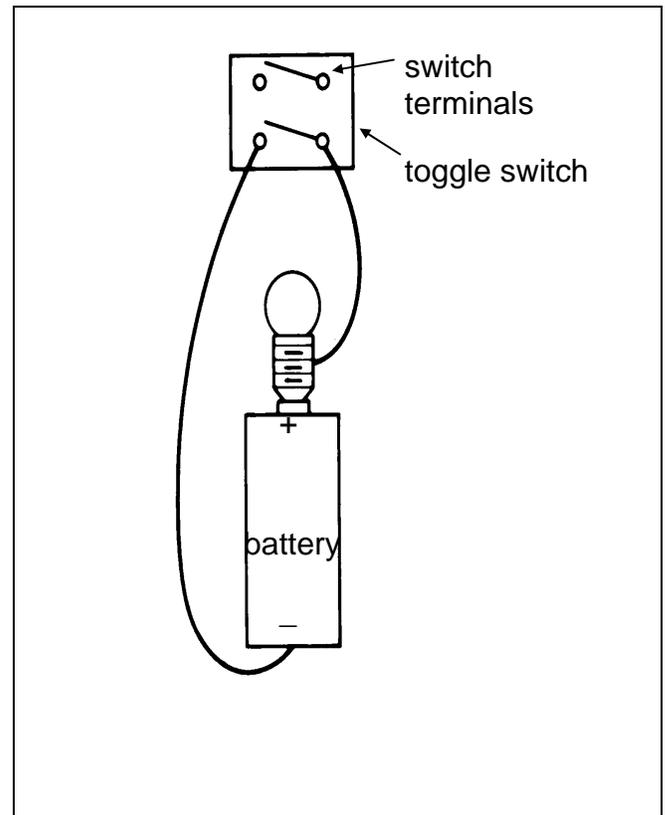

Figure B-1. Toggle Switch Continuity Test.
3. Obtain a continuity tester or a volt-ohm meter. If neither of these instruments is available, make a continuity tester using a battery and a bulb. See Figure B-1.
4. Connect the wires of the continuity tester to the switch terminals, as shown in Figure B-1, and test the switch in the ON and OFF positions. The switch should show continuity only when in the ON position.